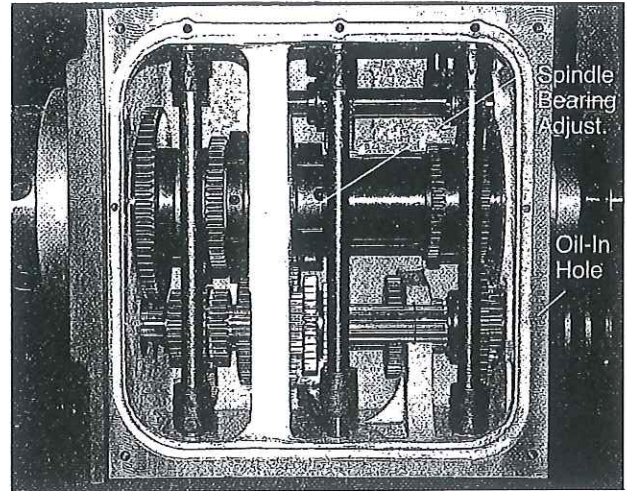

Figure 10
**Oil leak around the spindle** is most likely caused by the oil level begin too high or oil return hole over the spindle being blocked or restricted. Most of the time this oil inlet hole can be cleaned out by simply blowing air thorough the passage. (Figure 10)